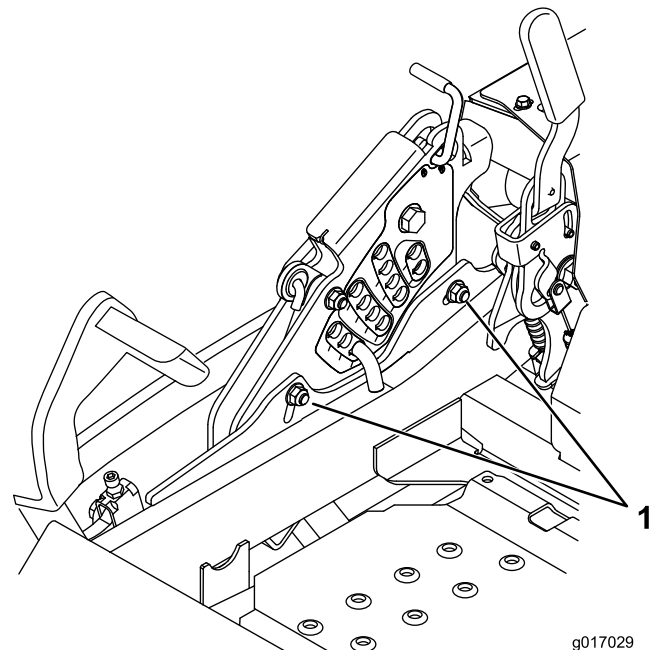

Figure 89
12. To adjust the single point system, loosen the two bolts at the bottom of the height of cut plate. Refer to Figure 89.
14. Tighten the two bolts at the bottom of the height of cut plate (Figure 89). Torque to 27-33 ft-lb (37-45 N-m).